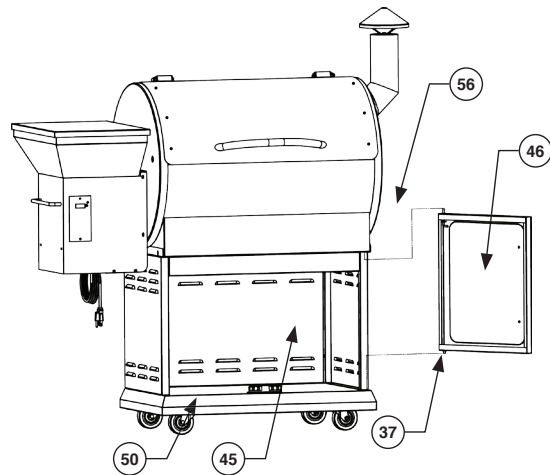

FIG 10
1. Take the Right Door (46) with handle assemble. First insert the Bottom Pivot (37) into the small hole on Platform (50). Then pull down the pivot until the upper end is aligned with top edge of the door. Then align the pivot with the upper hole and pull up the pivot secure the door.
2. Repeat Step 1 to secure the Left Door (38). Make a proper adjustment until the doors can be firmly closed. As shown in FIG10.